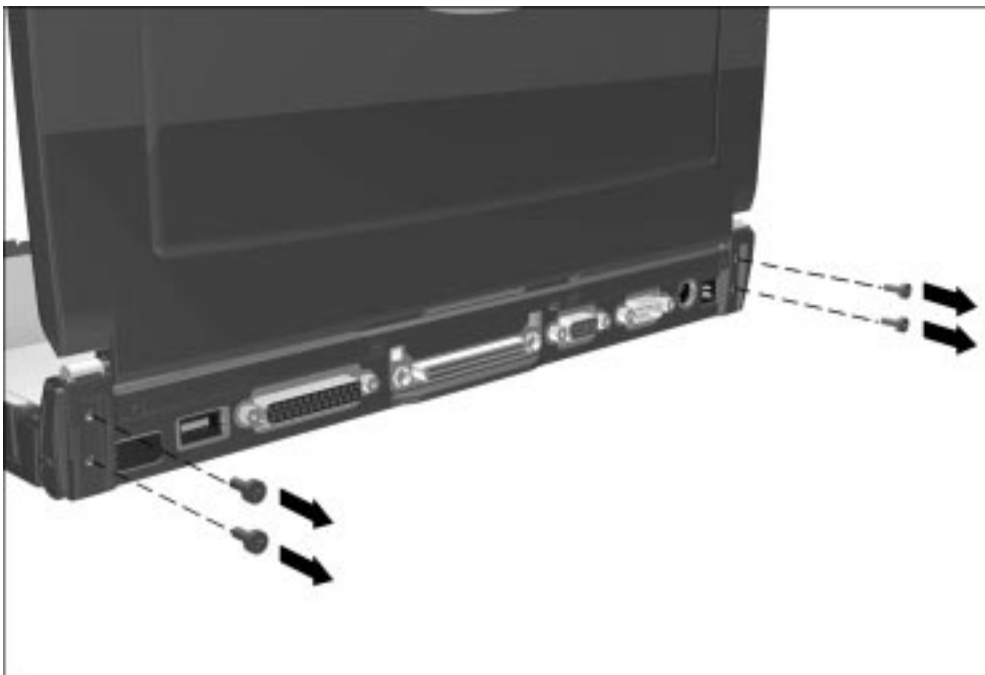

Figure 5-33. Removing the Display Assembly Screws
4. Remove the four screws that secure the display assembly to the base assembly (Figure 5-33).